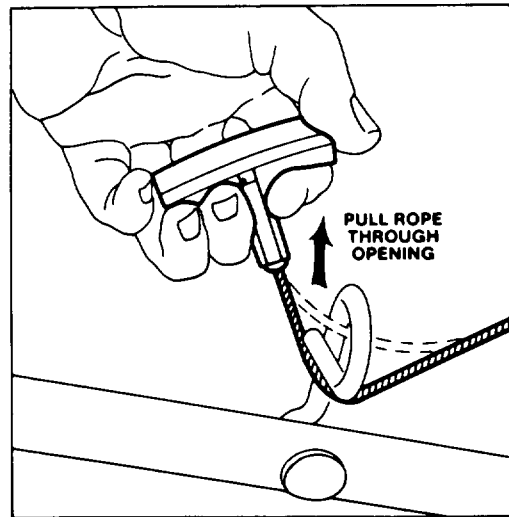

Figure 3
3. STARTER ROPE (Fig. 3) – Pull starter rope through opening in rope guide. By squeezing control bar (Fig. 5) against handle, blade brake will release and allow rope to be pulled easily up to rope guide.